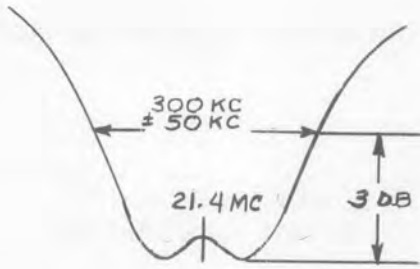

Figure 5-4. Type 501 Receiver, Typical Response Curve, V601 to V602 Interstage Alignment, 300-kc Bandwidth
- (2) Adjust Jerrold 900-A sweep generator near 21.4 mc for narrow sweep width with its detector switch at external detector position.
- (3) Set oscilloscope vertical sensitivity at 50 mv per cm and adjust sweep generator sweep width until a response curve is well displayed on oscilloscope screen.
- (4) Set receiver BANDWIDTH switch to 300 KC position.
- (5) Adjust C614 and C616 for a symmetrical response centered at 21.4 mc, as shown in Figure 5-4.
- (6) Using calibrated 21.4-mc signal from Hewlett-Packard 606A signal generator as a marker, check bandwidth by moving the marker along response curve, Bandwidth will be the frequency difference read from signal generator dial at points where marker intersects 3-db points of response curve, as shown in Figure 5-4.